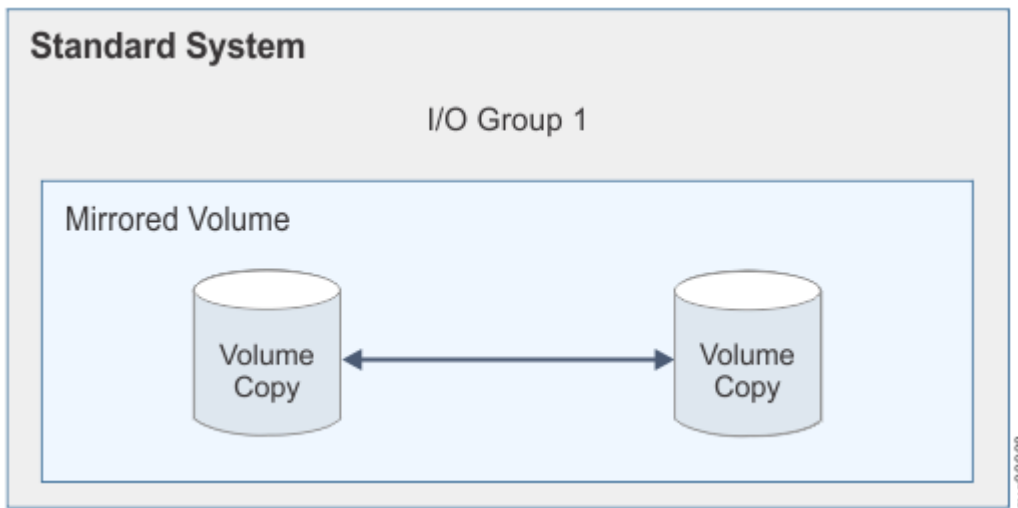

Figure 6. Example of mirrored volumes
- *Mirrored volumes*, where copies of the volume can either be in the same storage pool or in different storage pools. The volume is cached in a single I/O group, as Figure 6 on page 5 shows. Typically, mirrored volumes are established in a standard system topology.